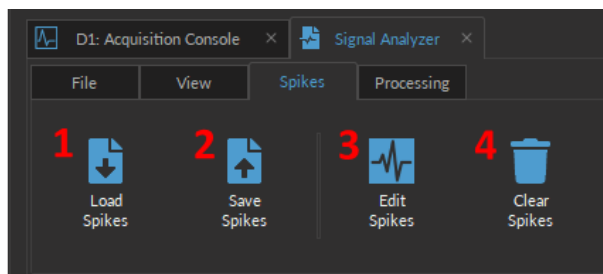

Figure 13.10: Spikes Tab
The **Spikes** tab (Fig. 13.10) is used to save, load, and edit data files containing process data within the module.
1. The **Load Spikes** button (Fig. 13.10, 1) will open a file selector window where the user can pick which *_Spikes#.doric* data set to import into the module.
2. The **Save Spikes** button (Fig. 13.10, 2) will automatically output a new file containing the processed data in the same folder as the raw data. This new file will share the name of the raw data file, plus a *_Spikes* between the old name and the *.doric*. If a spike file of that name already exists, an additional Spikes file is generated as *_Spikes#.doric*, instead of overriding the data.
3. The **Edit Spikes** button (Fig. 13.10, 3) allows users to update the spikes information in the current *_Spikes.doric* file without generating a new Spikes file. Instead, the new and old processed data are combined into a folder of the same name.
4. The **Clear Spikes** button (Fig. 13.10, 4) will erase the Spike file currently loaded in the module.